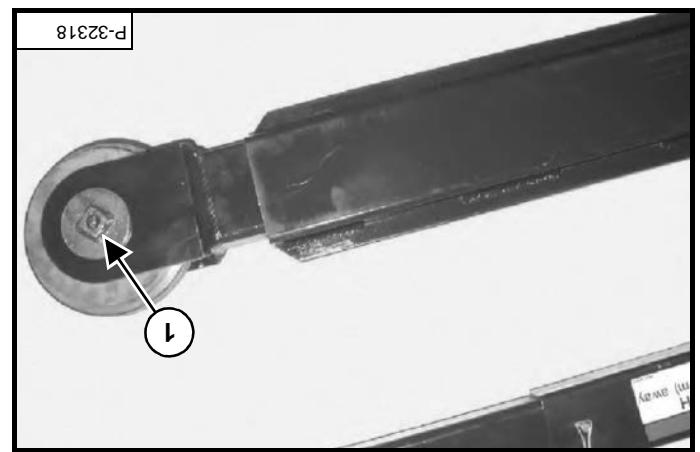

Figure PM-1
Add grease daily to the idler wheels (item 1) [Figure PM-1] on the LT313 and LT414 trenchers.